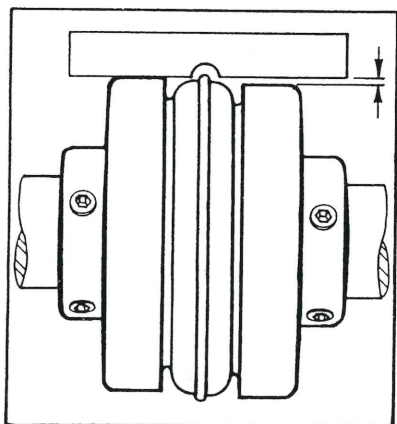

FIGURE 5
- a. Check parallel misalignment by placing a straight edge across the two coupling flanges (see Fig. 5) and measure the offset at various points around the periphery of the coupling to determine the maximum offset. This value should not exceed the value under Fig. 7 and should be as close to zero as possible. Do not rotate coupling.